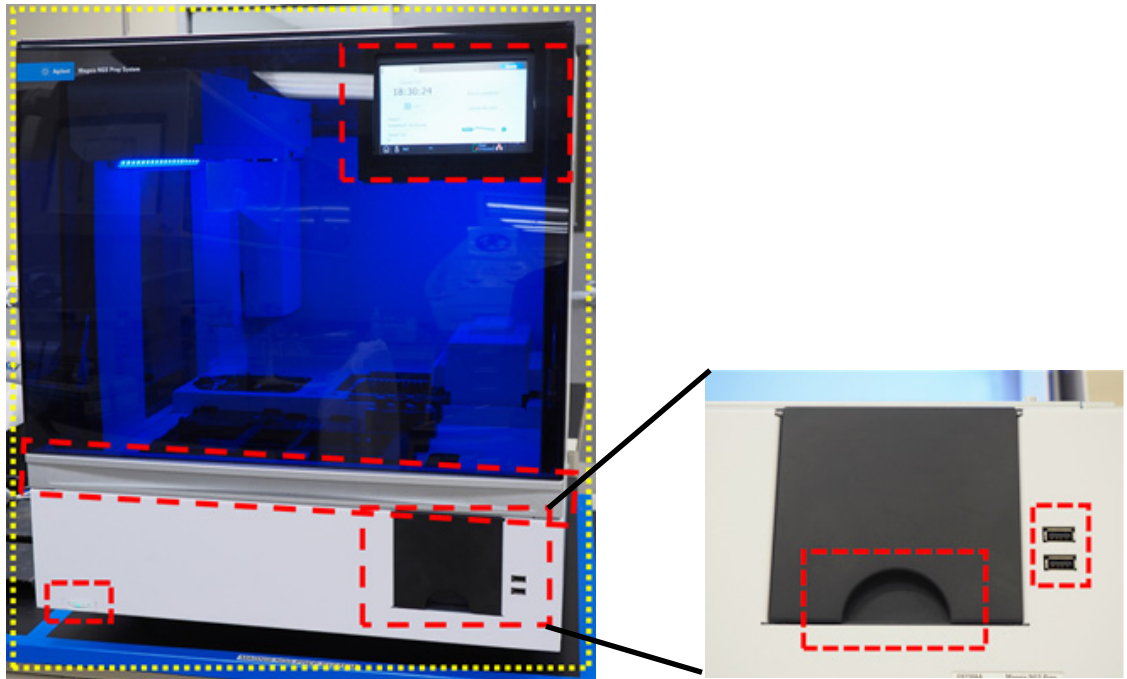

Figure 33 Exterior surfaces on the front of the instrument to be wiped down
- b **Instrument Exterior - Front:** Close the instrument door. Using a laboratory wipe moistened with 70% isopropyl alcohol, gently wipe down the surfaces that are outlined in yellow and red in **Figure 33**. These areas include the touchscreen, power button, waste bin door (including depression used to assist in opening/removing), and the front plexiglass. Pull out the waste bin drawer and wipe down the interior of the waste bin. Wipe down the area around the USB ports (do not wet the electrical contact points). All areas outlined in yellow require wiping down. Areas outlined in red require particular attention for careful cleaning.